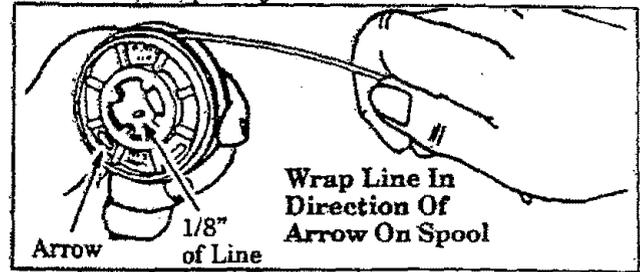

Figure 15
- b. Hold spool as shown in Figure 15.
- c. Insert 1/16 to 1/8 inch of line through the hole in the inner rim of the spool. Figure 15. Allow no more than 1/8 inch of line to extend beyond the inner rim of the spool to avoid interference with the drive gear.
- d. Wrap line evenly and firmly in the direction indicated by the arrow on the spool. Figure 15. To ensure proper line advance, avoid crossover or crisscrossing the line.